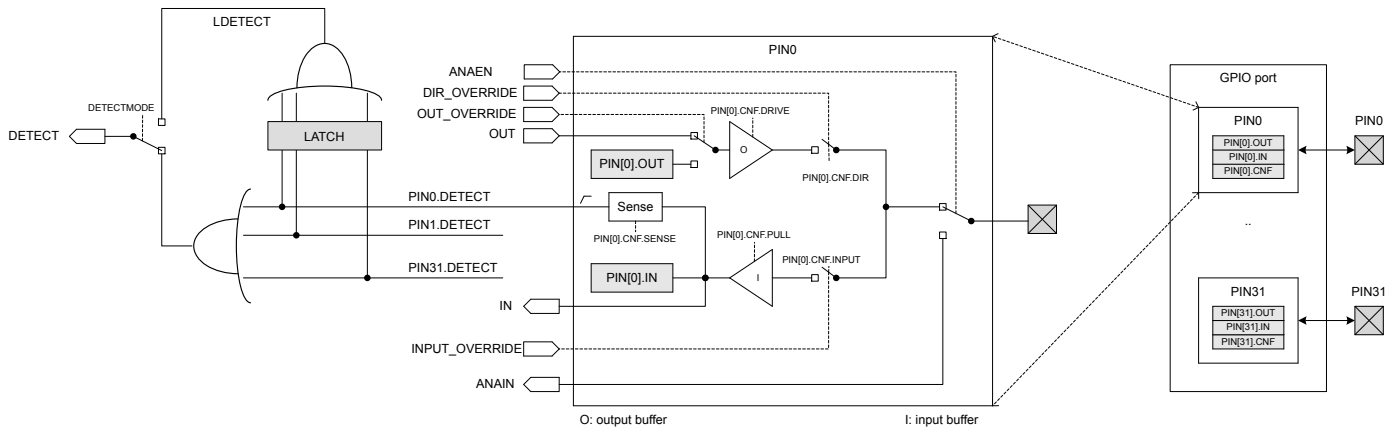
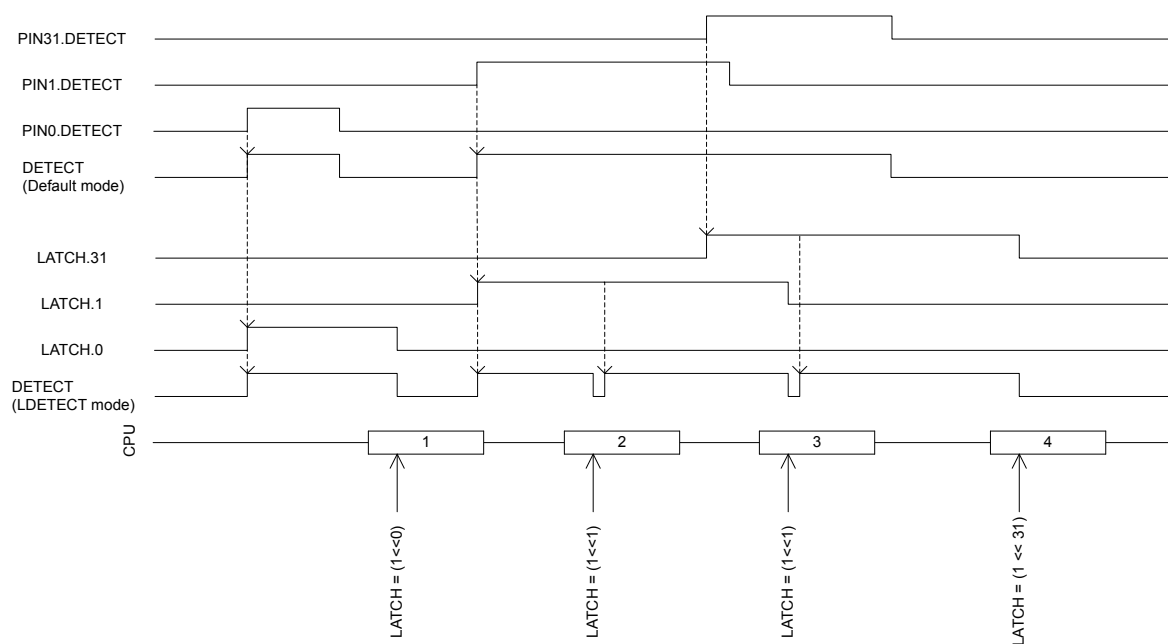

Figure 53: GPIO port and the GPIO pin details
Figure 55: DETECT signal behavior
**Figure 53: GPIO port and the GPIO pin details** on page 211 illustrates the GPIO port containing 32 individual pins, where `PIN0` is illustrated in more detail as a reference. All signals on the left side in the illustration are used by other peripherals in the system and therefore not directly available to the CPU.
The input buffer of a GPIO pin can be disconnected from the pin to enable power savings when the pin is not used as an input, see Figure 53: GPIO port and the GPIO pin details on page 211. Inputs must be
Other peripherals in the system can connect to GPIO pins and override their output value and configuration, or read their analog or digital input value. See Figure 53: GPIO port and the GPIO pin details on page 211.
Selected pins also support analog input signals, see ANAIN in Figure 53: GPIO port and the GPIO pin details on page 211. The assignment of the analog pins can be found in Pin assignments on page 765.
If one or more bits in the **LATCH** register are '1' after the CPU has performed a clear operation on the **LATCH** registers, a rising edge will be generated on the LDETECT signal. This is illustrated in Figure 55: DETECT signal behavior on page 214.
The LDETECT signal is by default not connected to the GPIO port's DETECT signal, but via the DETECTMODE register it is possible to change from default behavior to DETECT signal being derived directly from the LDETECT signal instead. See Figure 53: GPIO port and the GPIO pin details on page 211. Figure 55: DETECT signal behavior on page 214 illustrates the DETECT signal behavior for these two alternatives.